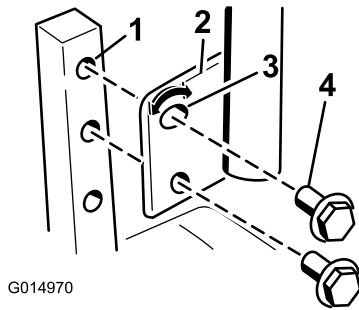

Figure 23
1. Remove the 2 bolts holding the control lever to the control arm shaft (Figure 23).
2. Move the control lever to the next set of holes. Secure the lever with the 2 bolts (Figure 23).
2. Loosen the lower bolt just enough to pivot the control lever fore or aft (Figure 23). Tighten both bolts to secure the control in the new position.